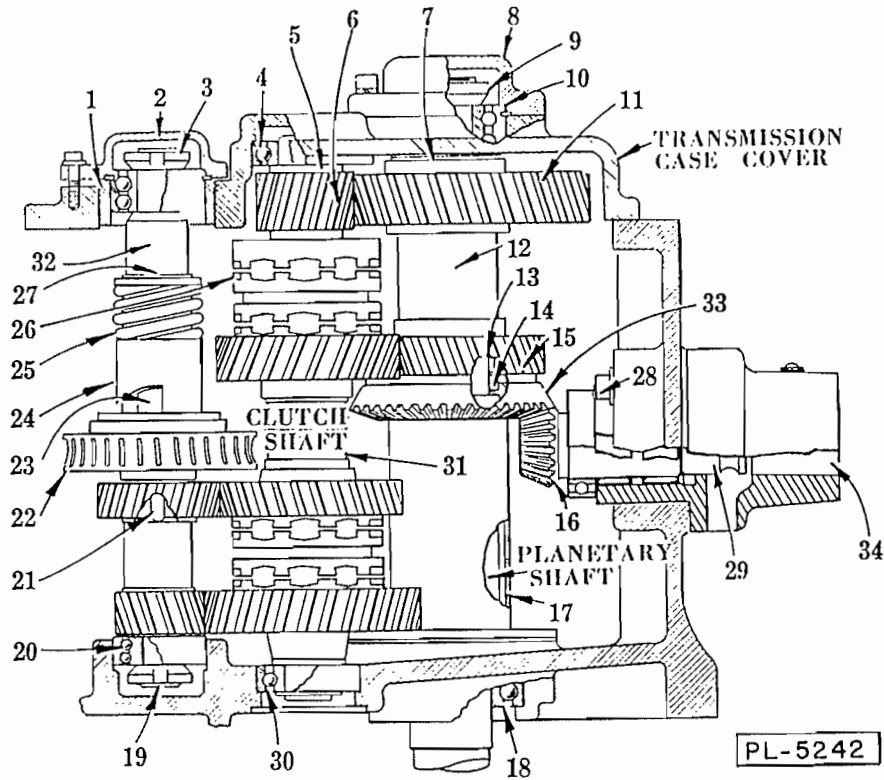

Fig. 7
To remove the transmission case cover take off the bearing retainers (2 & 8, Fig. 7). Take off the locking nuts (3 & 9, Fig. 7) and pry off the transmission case cover. The top ball bearings will come off with it. Lay the cover aside carefully so that the oil-delivery tube (2, Fig. 2) will not be bent.
The clutch shaft and worm-gear shaft (31 & 32, Fig. 7) must be removed together. The worm gear shaft has a self-aligning ball bearing (20, Fig. 7) at the bottom, so that it can be tilted away from the worm far enough to clear it. Lift off the upper gear (11, Fig. 7) on the planetary shaft. Notice that the shim (7, Fig. 7) on top of this gear has the relieved side up.
On the clutch shaft, remove the bearing (4, Fig. 7), washer (5, Fig. 7), top pinion (6, Fig. 7), and clutch (26, Fig. 7). Then work the clutch shaft and worm-gear shaft assemblies out together.
If the lower bearing (18, Fig. 7) must be withdrawn, it will be necessary to first remove the chimney (17, Fig. 7). When replacing the chimney, be sure to get a good seal between it and the transmission case, to prevent leakage of oil.
The attachment hub (34, Fig. 7) is fastened to the transmission case by four bolts (28, Fig. 7).
The heads of these bolts being inside the case, a partial disassembly of the transmission will be necessary before the attachment socket or the bevel pinion (16, Fig. 7) can be removed.
Replacement of the square drive sleeve (29, Fig. 7) however, can be accomplished without disturbing any of these parts. SEE REPLACEMENT OF SHEAR KEY, paragraph H, page 10.
Start disassembly of the worm-gear shaft from the bottom. When the locking nut (19, Fig. 7) is off, the gears and other parts will be loose on the shaft and may be taken off easily.
When re-assembling, put on the retaining ring (27, Fig. 7), the spring (25, Fig. 7), the shock absorber part (24, Fig. 7) and the worm gear (22, Fig. 7). It will then be necessary to use a vise or press to get these parts up where they belong. Press the worm gear up far enough to permit insertion of the key (21, Fig. 7). Release the vise pressure carefully and avoid burring the worm gear because the bottom of the hub acts as a thrust bearing. The key (21, Fig. 7) will hold the assembly in place until the remaining parts can be threaded on and pulled up tight by the locking nut (19, Fig. 7).
When a sudden load causes the worm gear to turn slightly on its shaft, the cams (23, Fig. 7) move the compressor element (24, Fig. 7) upward so that the spring takes the shock.
When re-assembling the transmission, be careful not to cock the outer race of the self-aligning ball bearing (20, Fig. 7). It is possible to install the worm gear shaft by itself and then raise it far enough to get the clutch shaft in place without pulling the bearing (20, Fig. 7) out of its seat. This will avoid the risk of cocking the outer race.
The worm gear must mate properly with the worm on the motor shaft, and a vertical adjustment is provided by a sleeve (1, Fig. 7). The sleeve is correctly set at the factory and locked by two small set screws, so unless replacements have been made no change will be necessary.
- (1) See that the transmission case cover is bolted down tight.
- (2) Take out the two small set screws (one on top of the other) that lock the sleeve (1, Fig. 7). Turn the sleeve (1, Fig. 7) a fraction of a turn in a clockwise direction until the motor shaft begins to bind when revolving the rotor by hand.
- (3) Turn the sleeve counter-clockwise until the same thing occurs in the top position.
- (4) The total movement may be as much as half a turn. Mark the half-way point. Set the sleeve about midway between the half-way point and the top position. This will bring the worm gear on the high side of center, as it should be.
- (5) Use a drill to spot the adjusting sleeve for the set screw. A second set screw goes into the same tapped hole to lock the first one.
All gears in this assembly must be free to turn on the shaft and the clutches should slide freely up and down on the splines. If a clutch seems to bind, take it off, turn it to a new position and try again. The top and bottom gears must have a few thousandths end play between the shaft shoulders and the washers that are between them and the ball bearings. The lower bearing (30, Fig. 7) on the clutch shaft must be assembled to take the downward thrust (thin section of outer bearing race up).
An "O" ring (14, Fig. 7) is set in the bevel gear to prevent oil leakage down the planetary shaft. When moving the bevel gear (33, Fig. 7) on the shaft, be careful not to cut the "O" ring on the keyway (13, Fig. 7) that is just above it.
The bevel gear adjustment is governed by the thickness of the planetary-shaft shim (7, Fig. 7). This shim must be installed with relieved side up and the flat side down.
A new shim may be required if gear (11, Fig. 7), gear (15, Fig. 7), spacer (12, Fig. 7), or top bearing (10, Fig. 7) is replaced. A new bevel gear or pinion should not require any change in shims.